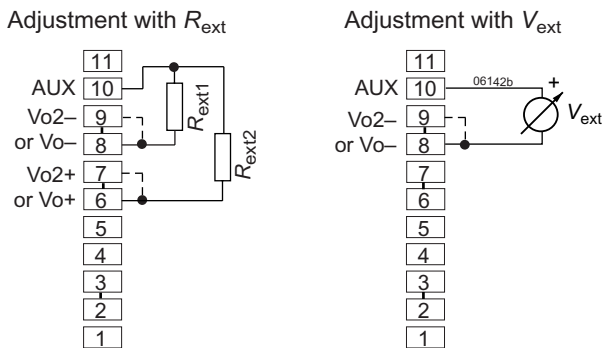

Fig. 20
Resistor Rext1, connected between R (pin 2) and GND1 (pin 1) of the D-SUB connector or according to fig. 20.
Resistor Rext2, connected between R (pin 2) and VCC (pin 3) of the D-SUB connector or according to fig. 20.
**Note:** If the R function is not included in M1 or M2, refer to figure 20 how to connect Rext1 or Rext2.
b) Adjustment by an external control voltage Vext (1.25 – 2.75 V), connected between R (pin 2) and GND (pin 1) of the D-SUB connector or according to fig. 20.